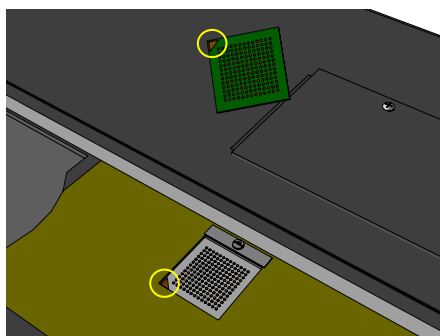

Fig.4
1. When installing a processor be sure to align pin one of the processor with pin one on the processor socket. (See Fig.4)